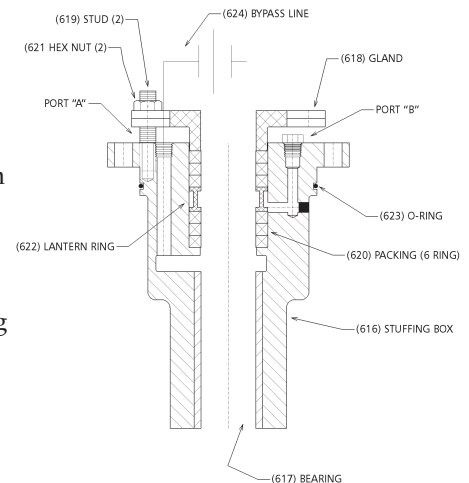
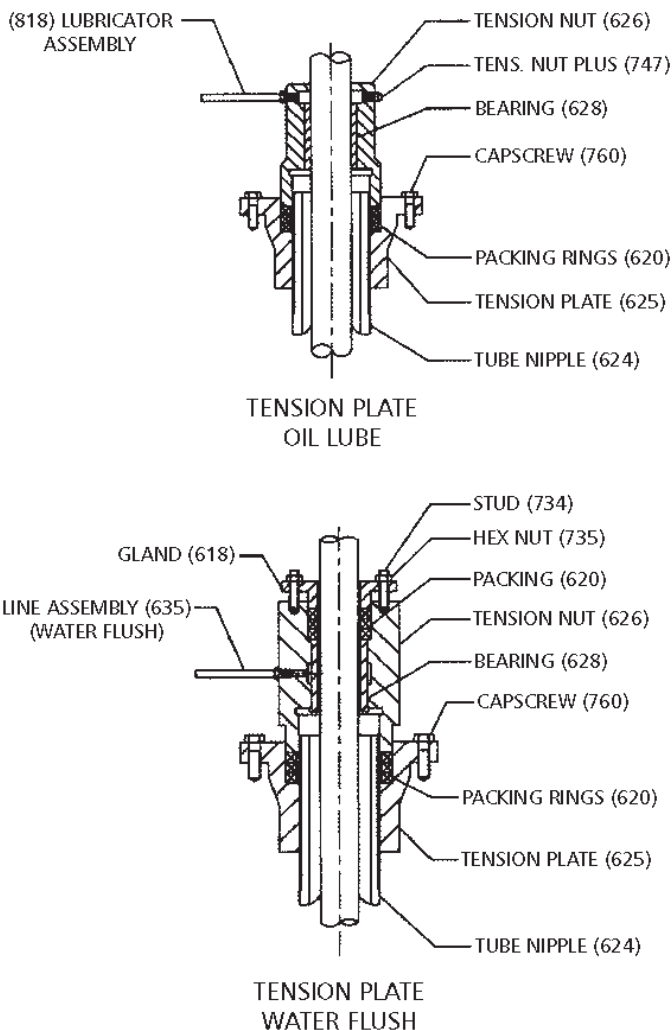

Figure 9
Figure 10
1. If the stuffing box (See Fig. 9) or tension nut (See Fig. 10) is assembled to the head, remove it and all the attached piping.
2. For threaded column, check to be sure that the flange column (637) is securely attached to the bottom of the discharge head. Check and tighten the capscrews (or socket head screw) gradually in diametrically opposite pairs.
Assemble stuffing box as shown in Figure 9.
1. Clean the surface of the discharge head where the stuffing box will be mounted and remove any nicks or burrs with a fine flat file. Position gasket on surface. Slide stuffing box (616) down over headshaft and into position on the gasket. Secure stuffing box with capscrews. Make sure the capscrews are torqued equally to prevent misalignment.
2. Grease the packing ring (620) for easier installation.
3. Twist the packing ring sideways to get it around the shaft easily. Start the first ring into the stuffing box. When the entire ring is worked in using the fingers, tamp it down using a split wood bushing (or equal) and push the packing ring down firmly. It must seal on the shaft and bore of the stuffing box. Install all six (6) rings and lantern ring as shown in the Figure 9. Stagger ring joints 90 degrees apart. The split gland may be used as a tamper for the top ring.
1. (See Figure 10). Lubricate tube threads and underside of tension plate flange with thread compound. Thread the tension plate (625) onto the enclosing tube nipple (629) manually until its shoulder rests on the discharge head.
1. (See Figure 10). Install capscrews (760) in the tension plate. Pour one pint of oil down the oil tube. Note: Factory assembled unit has no oil in it. Oil must added in the field.
2. Install packing (620) in the tension plate and thread the tension nut (626), tightening it firmly against the packing.
3. If a packed type tension nut (626) is used (for water flush), install packing (620), packing gland (618) and secure with stud (739) and nut (735). Screw nut finger tight. Install line assembly (635) and connect to flush liquid supply (see Figure 10).